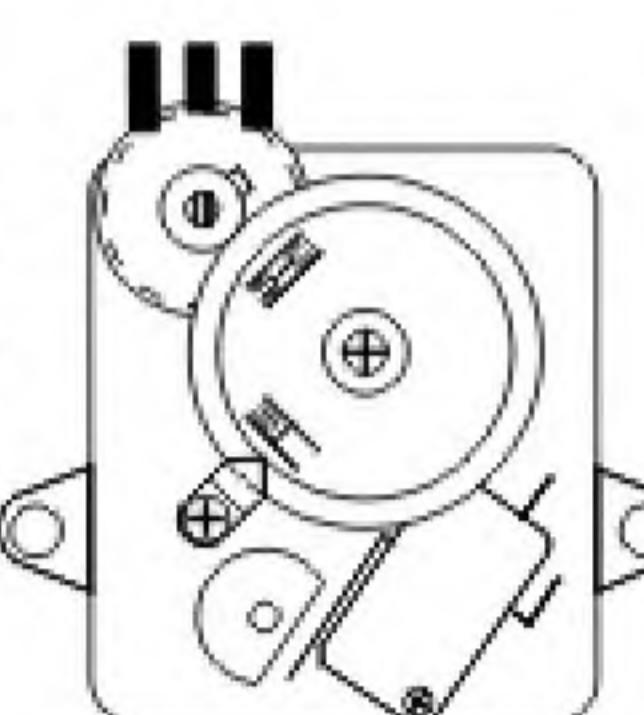

Figure 3 Opening Indicator
• Adjustable opening indicator (Figure 3): It consists of a reduction gear set, an adjusting gear, a valve opening dial, a cam, a micro switch, and a potentiometer. During on-site debugging, adjust the adjusting gear to the required position according to the number of turns of the valve switch, and mesh with the reduction gear set (there is the number of the required number of turns on the column). When the valve is in the process of opening or closing, the opening dial rotates after decelerating, indicating the opening and closing amount of the valve, and the indicating angle is synchronized with the opening and closing amount of the valve. , For remote transmission to indicate the valve position.